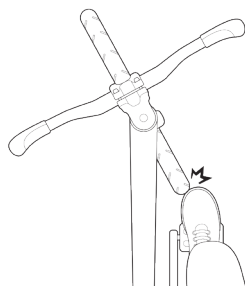

fig. 20
1. Toe Overlap is when your toe can touch the front wheel when you turn the handlebars to steer while a pedal is in the forwardmost position (fig. 20). This is common on small-framed bicycles, and is avoided by keeping the inside pedal up and the outside pedal down when making sharp turns. On any bicycle, this technique will also prevent the inside pedal from striking the ground in a turn.